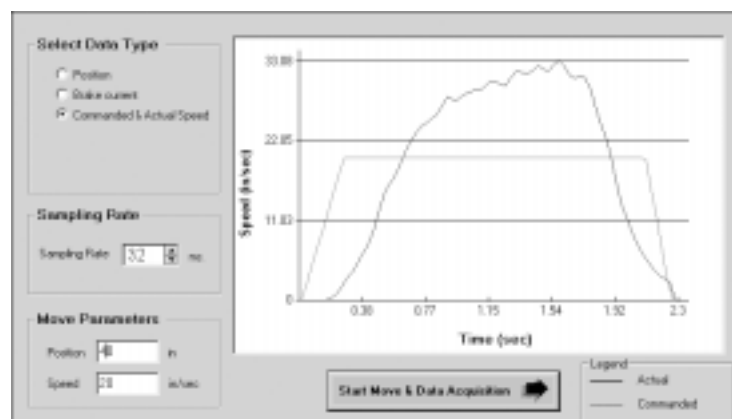

Figure 7.6a
- Use the Commanded & Actual Speed in the Data Acquisition to see the speed achievable with the current air pressure. See Fig 7.6a, this data file is with 15 PSI air pressure. Notice the speed can be achieved but the acceleration rate is not met.